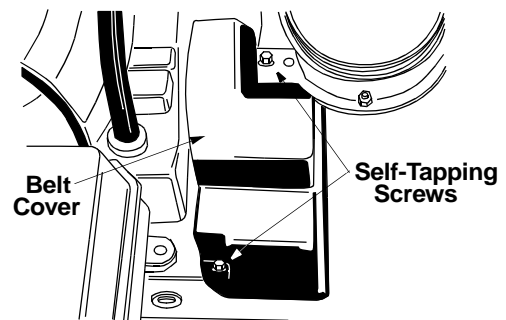

Figure 25
- Remove plastic belt cover from front of the engine by removing the two self-tapping screws. See Figure 25.